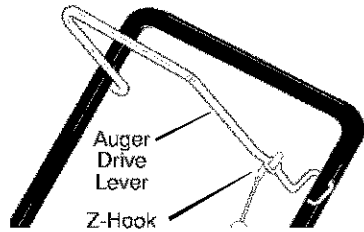

Figure 6
1. Remove the "Z" hook from the **auger drive lever** (Figure 6).
7. Install the "Z" hook to the **auger drive lever** (Figure 6).